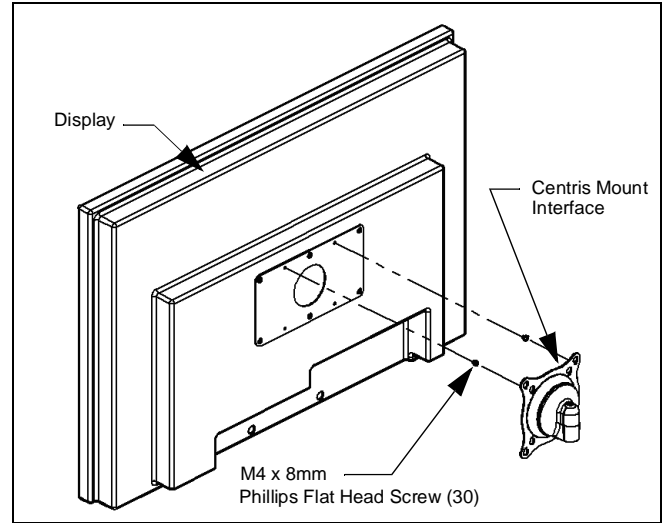

Figure 4: Install Upper Mounting Screws
3. Install two M4 x 8mm Phillips Pan Head Screws (30) into upper mounting holes in Interface Bracket (10) (see Figure 4).